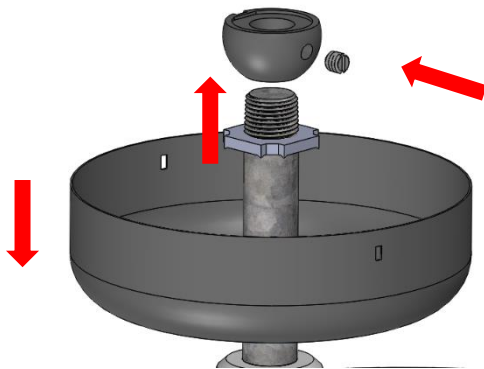

Fig. 2
- Slip the cover over the conduit and screw the pipe into the ball joint and secure it in place using the set screw. (Fig. 2)